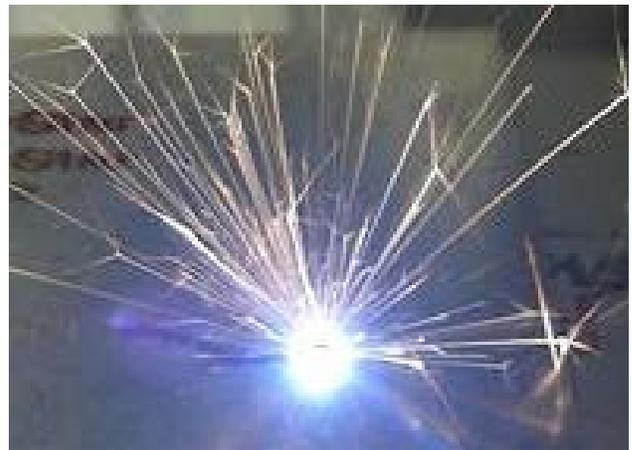

Figure 3
3. Configure the settings for power and speed to achieve the results shown in **figure 3**.
4. Using the default material, set the loop count to a minimum of ten (10) or enable the repeat function (navigate to utilities; select the repeat icon).
7. Move the lab stand up and down to find an ideal position; this is the location where the laser marks most accurately (reference **figure 2** and **figure 3**).
7. Check to make sure the laser beam is in focus (see **Figure 3**).